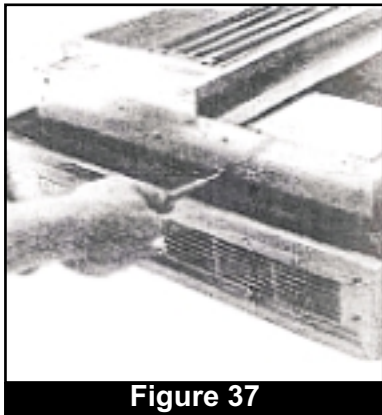

Figure 37
7. Remove four screws (two at each end) holding fan blower motor bracket in place with a medium flathead screwdriver and gently lift bracket to expose mounting clips for the copper thermostat probe. (Fig. 37)